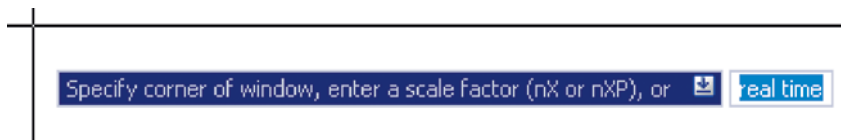

Fig. 3.34 Dynamic Input – second example – Zoom – click the **Zoom** icon. The prompts then appear.
1. Click the **Zoom** icon in the status bar. The first **Zoom** prompt appears (Fig. 3.34).